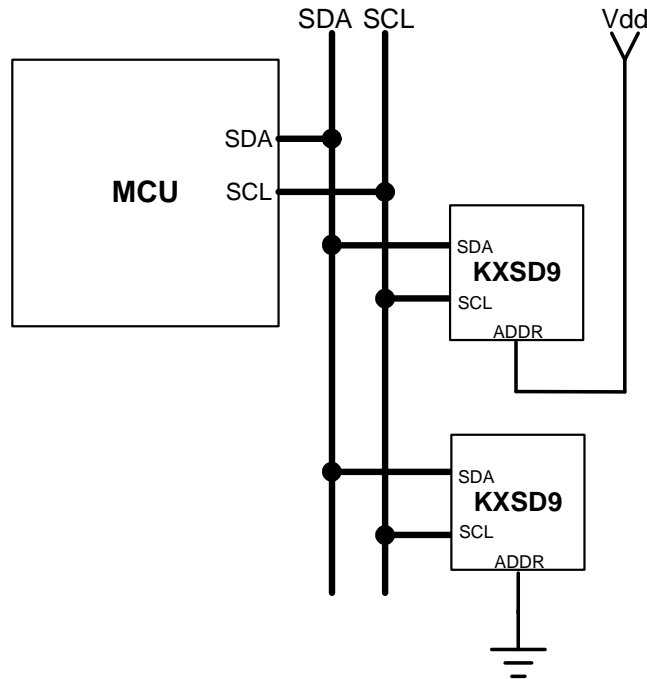

Figure 1 Multiple KXSD9 I2C Connection
The KXSD9 has the ability to communicate on an I2C bus. I2C is primarily used for synchronous serial communication between a Master device and one or more Slave devices. The Master, typically a micro controller, provides the serial clock signal and addresses Slave devices on the bus. The KXSD9 always operates as a Slave device during standard Master-Slave I2C operation as shown in Figure 1 on the following page.
Transactions on the I2C bus begin after the Master transmits a start condition (S), which is defined as a high-to-low transition on the data line while the SCL line is held high. The bus is considered busy after this condition. The next byte of data transmitted after the start condition contains the Slave Address (SAD) in the seven MSBs (Most Significant Bits), and the LSB (Least Significant Bit) tells whether the Master will be receiving data '1' from the Slave or transmitting data '0' to the Slave. When a Slave Address is sent, each device on the bus compares the seven MSBs with its internally-stored address. If they match, the device considers itself addressed by the Master. The KXSD9's Slave Address is comprised of a programmable part and a fixed part, which allows for connection of multiple KXSD9's to the same I2C bus. The Slave Address associated with the KXSD9 is 001100X, where the programmable bit, X, is determined by the assignment of ADDR (pin 8) to GND or Vdd. Figure 1 above shows how two KXSD9's would be implemented on an I2C bus.